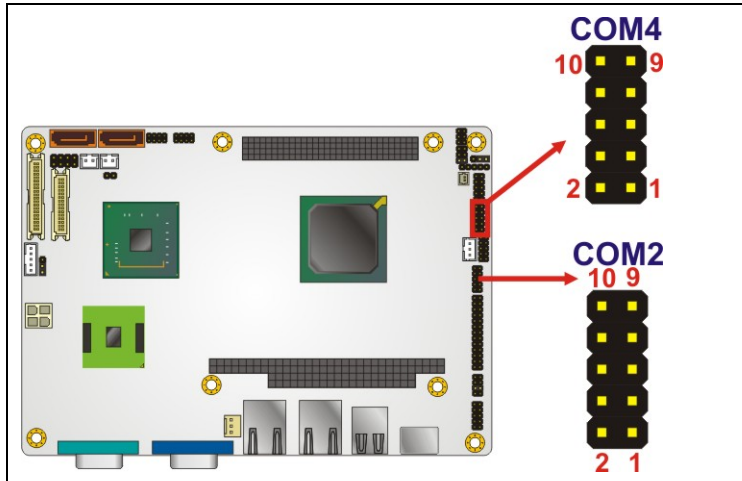

Figure 3-19: COM2 and COM4 Connector Pinout Locations
- CN Location:** See Figure 3-19